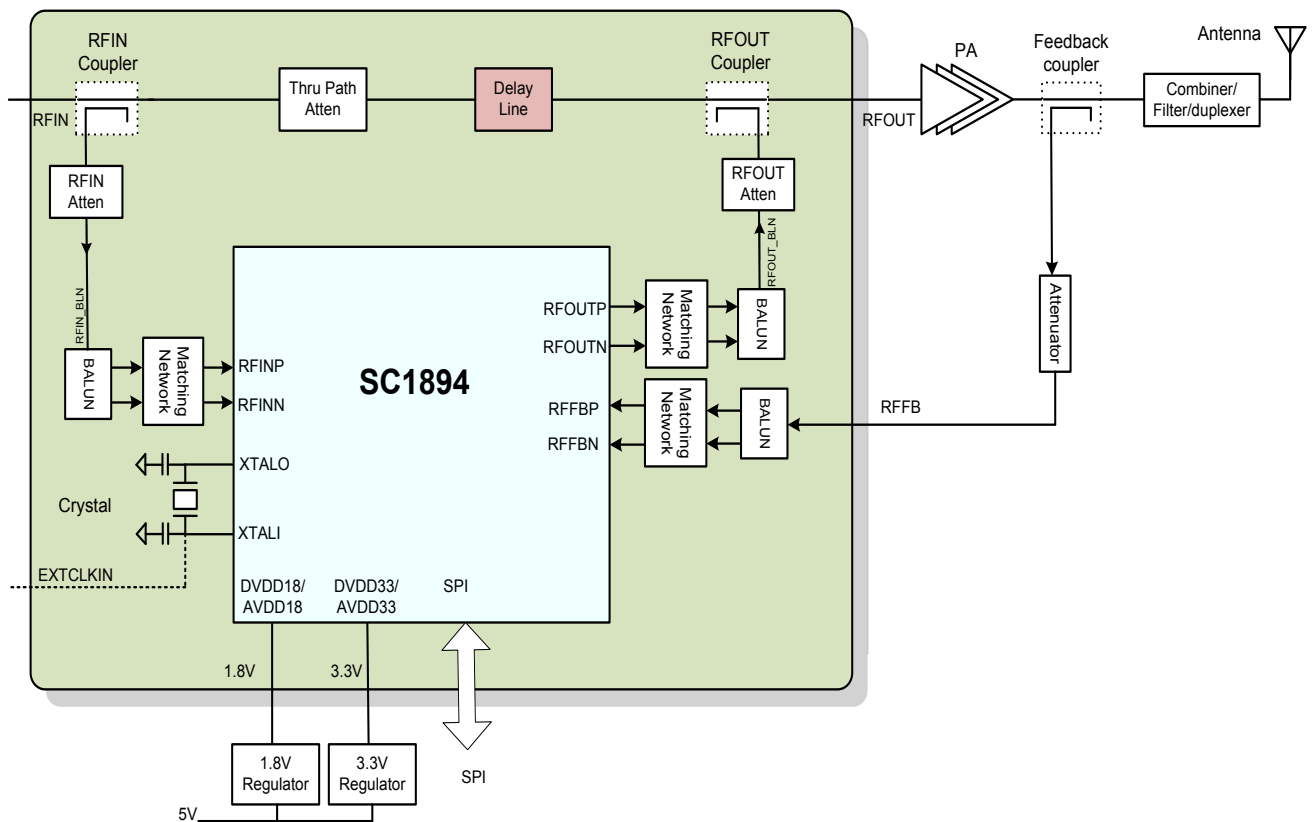
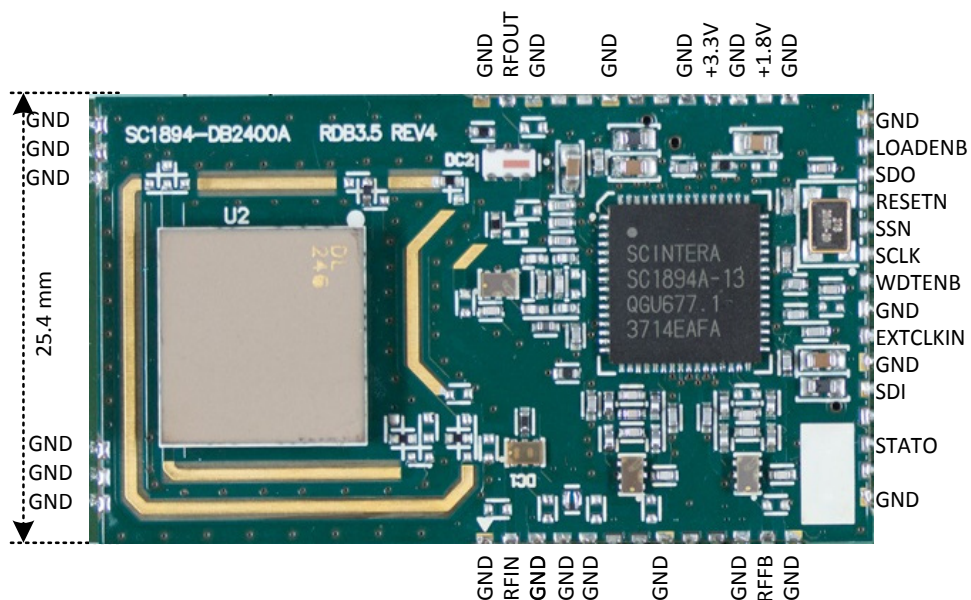

Figure 2. SC1894 reference design block diagram.
Figure 3. SC1894 reference board photograph and pin configuration.
The SC1894 reference design contains all circuitry necessary for linearization and accurate power detection, including power-supply regulation from 5V DC. The PCB uses a single-side four-layer FR4 design, ideally suited for cost sensitive RF applications. The reference board block diagram is shown in **Figure 2** for SC1894. The pin configuratoin and photograph are shown in **Figure 3**.
- a. Although not represented in Figure 3, it is highly recommended to use a connector to upgrade firmware with the GUI during the system integration and SPI interface bring up. This connector must have the following signals: SDI, SDO, SSN, SCLK, RESETN, WDTEN, GND, and LOADENB.